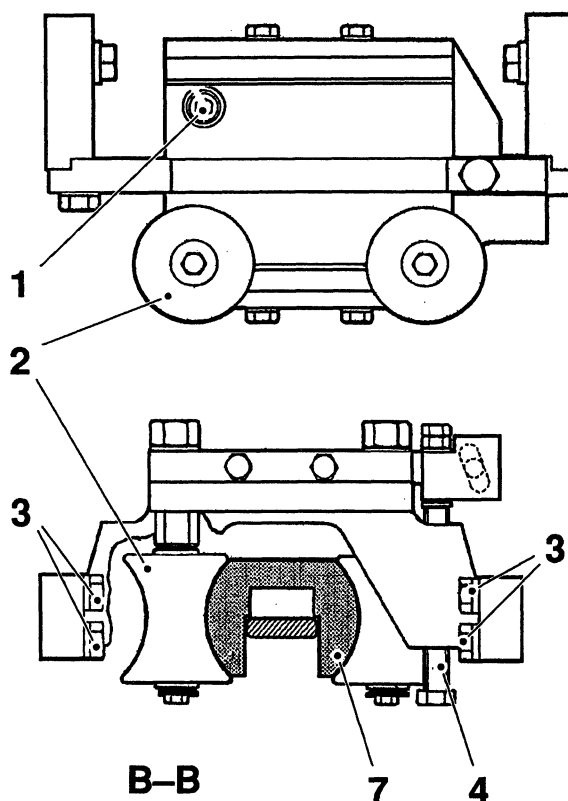

Fig. 1
- Loosen the screws (3) and set distance A, see table and fig.
- Fit the setting fixtures (5) and (6).
- Loosen the locking screw (1). Apply the template (7), see table, to the fixture (6), see fig. 1.
- Turn the adjustment screw (4) until the LH tube support roller (2) bears against the template. Tighten the screw (1).